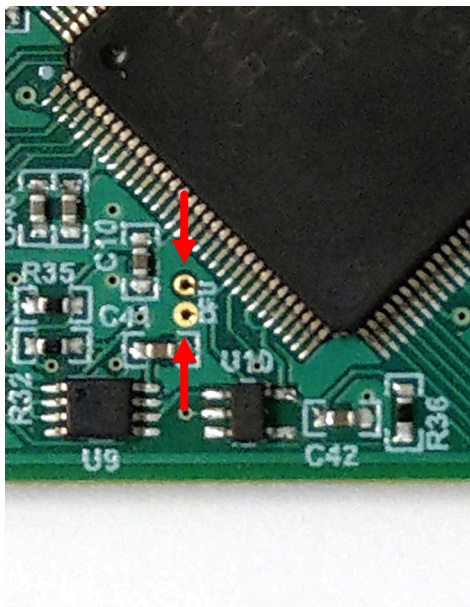

Figure 3-1. Test Points Used to Enter DFU Mode Manually
- While shorting the two test points labeled *DFU* (shown in Figure 3-1) with a pair of tweezers (or wire), press and release the RESET button.